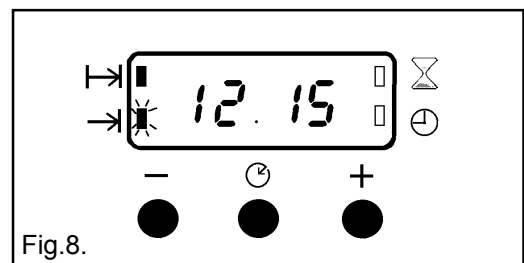

Fig.8.
- v) To set the 'End Time'. Press the Selector Control button until the 'End Time' (⏰) flashes. Press the increase control (+) until the required stop time is displayed, e.g. 12.15 p.m. as Fig. 8. If necessary depress the decrease control (-) until the correct time interval is achieved.